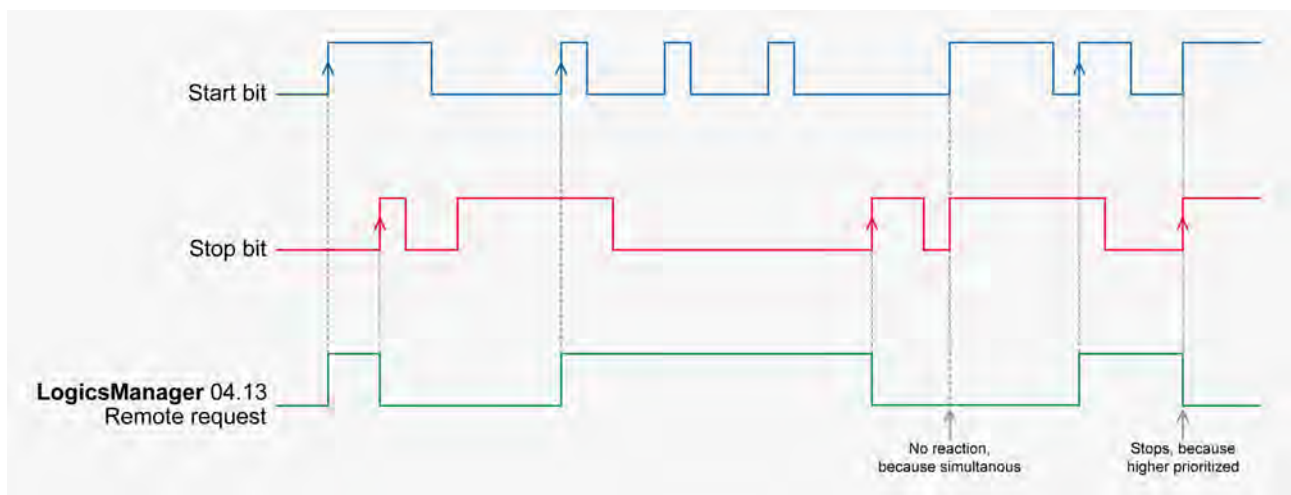

Fig. 163: Command variable
- The command variable "04.13 Remote request" changes to "0" (low) if the stop bit (ID 503, bit 1) changes from "0" to "1" (Fig. 163).